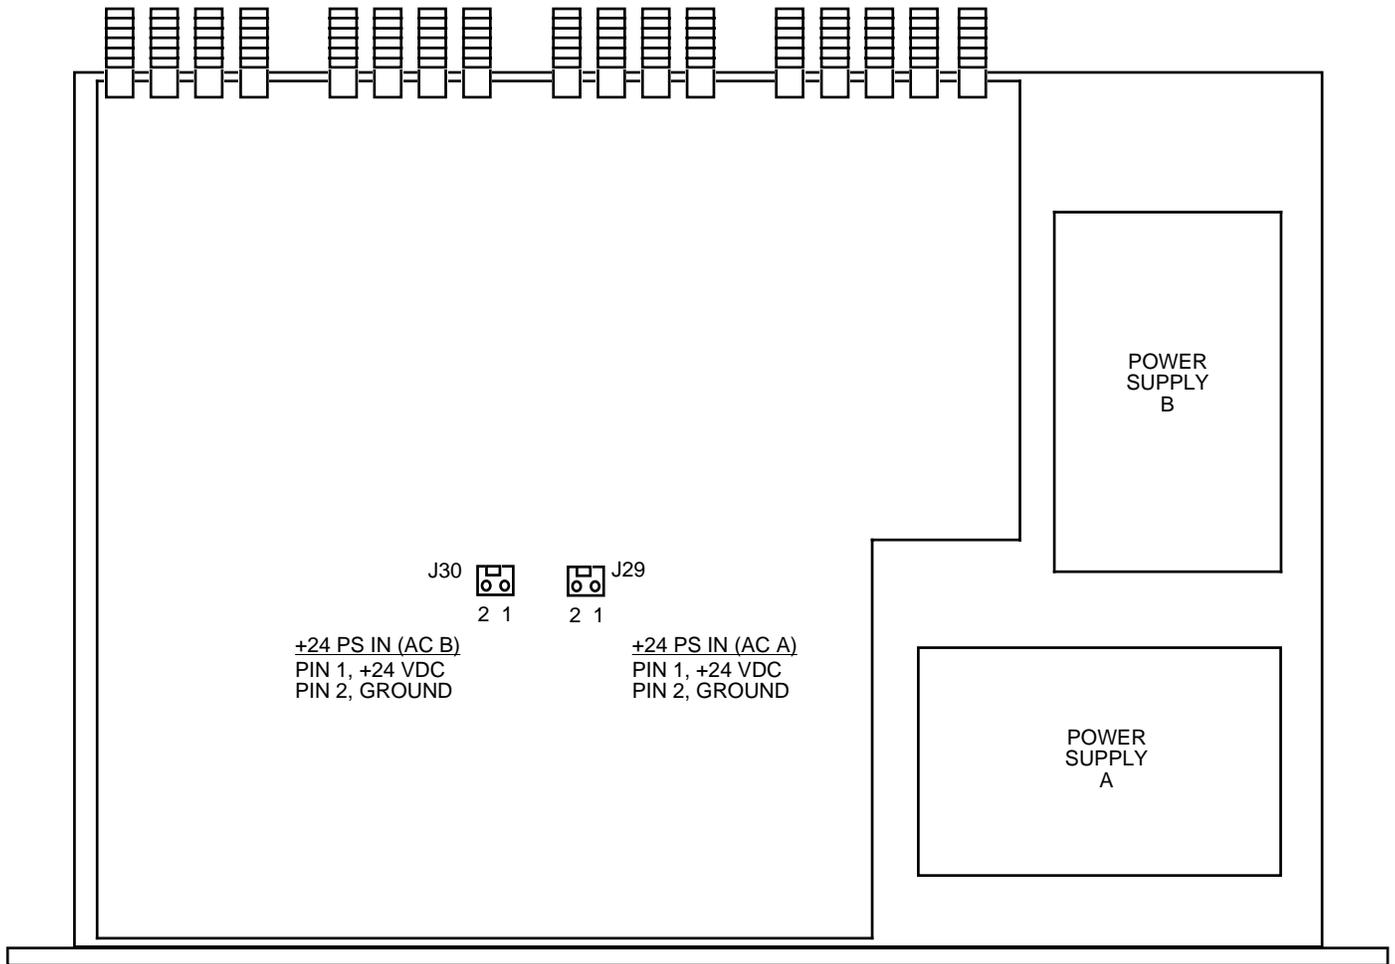

FIGURE 2.0 1584-161 MECHANICAL ASSEMBLY
2.1 Mechanical - The 1584-161 consists of one RF printed circuit board (PCB) housed in a 1 RU (1 3/4 inch high) by 12 inch deep chassis. Redundant, switching, +24 VDC power supplies with the DC output diode OR'd provide redundant power for the internal and external amplifiers and LEDs. Connectors are type F, female for the RF connections (BNC, female option -B or -D). The 1584-161 can be secured to a rack using the 4 holes on the front panel. Figure 2.0 shows how the 1584-161 is assembled. J25 connects DC Power to the fuse as shown and J30 and J29 connect the DC voltage from the power supplies to the PCB as shown.